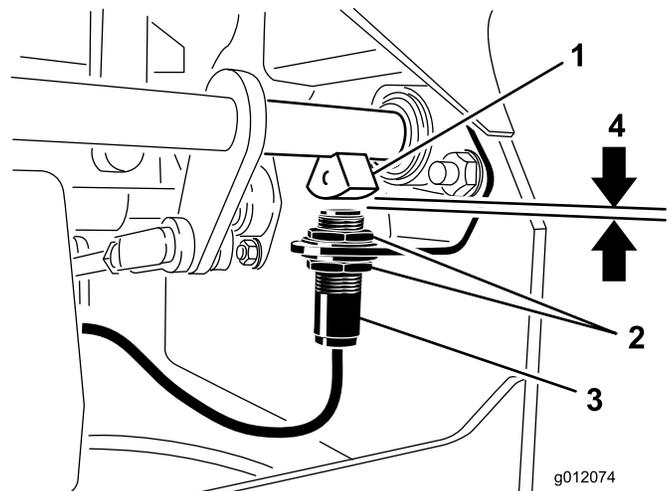

Figure 51
4. Move the switch up or down on the bracket until the distance between the brake shaft sensor and the switch plunger is 3.9 mm (5/32 inch) (Figure 51).